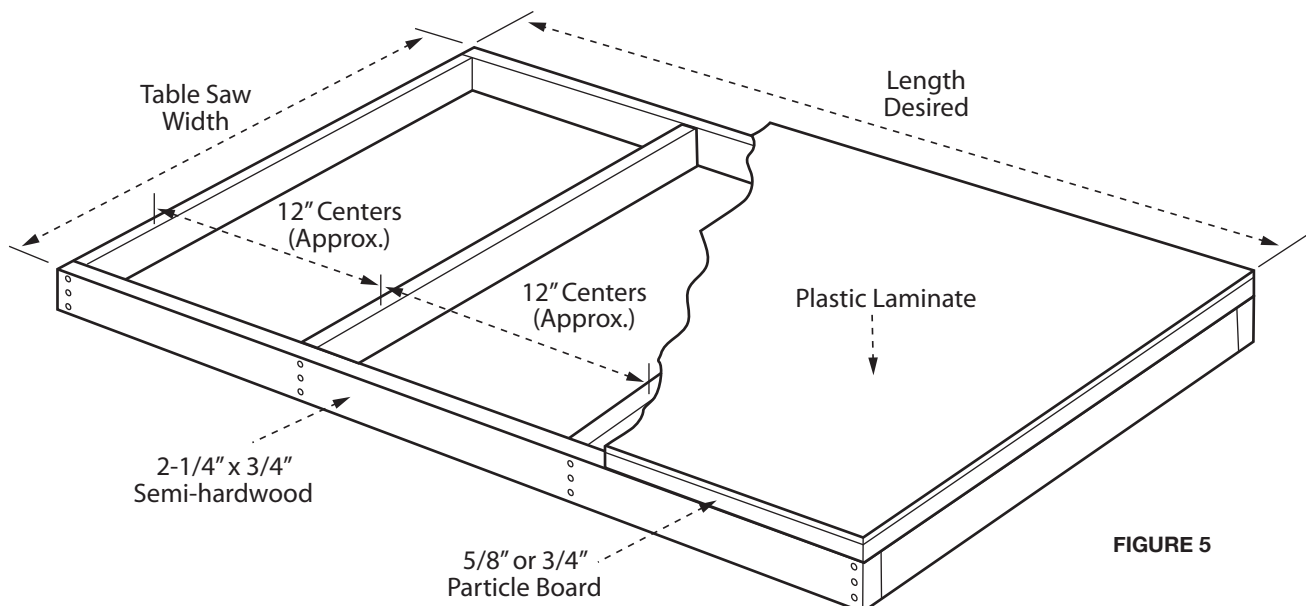

FIGURE 5
NOTE: The front and rear guide rails of the 36-T50 T3 have additional holes (A) (Fig. 5) in the extension end that are used to attach an extension table. If you plan to install an extension table to your table saw, install it before attaching the guide tube. Based on your saw model some holes in the front and rear guide rails may not be used.
To build a wooden table support, refer to Figure 5.